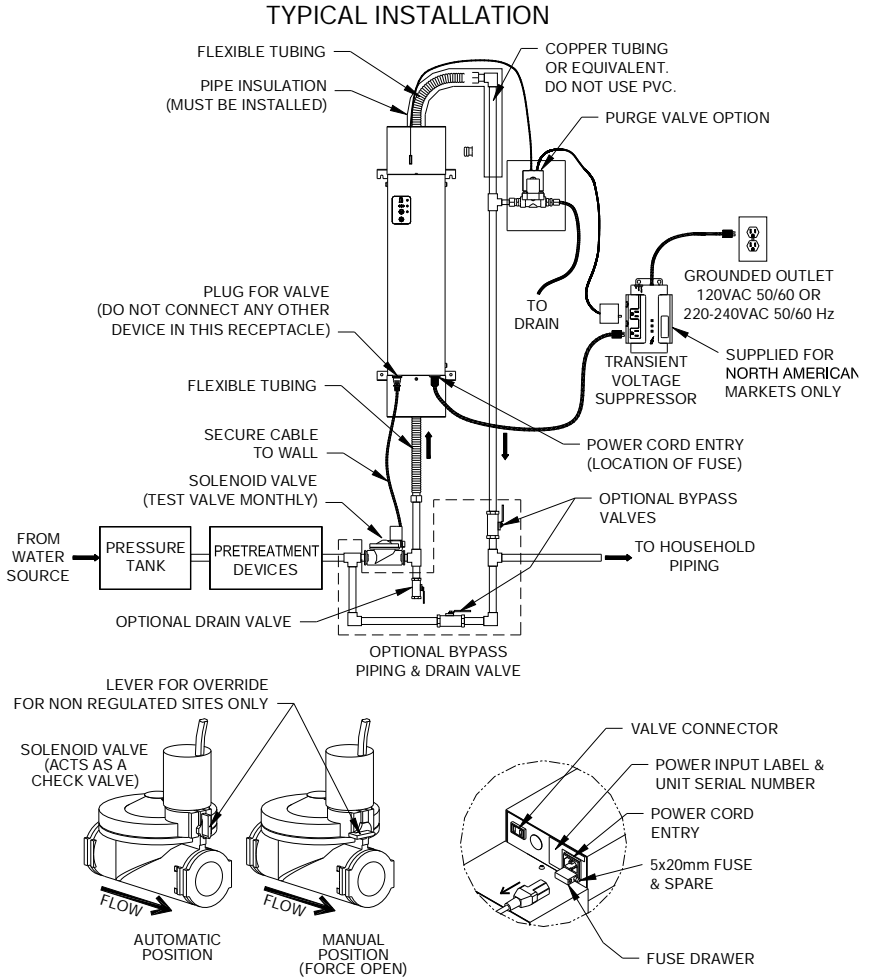

Figure 1B
There are two standard operating voltages for the Hallett unit. The unit may be 120Vac or 220-240 Vac. Please refer to the power input label located near the power cord entry of the unit. See Figure 1B. For convenience the front cover of the manual should also contain model number and operating voltage.
The Hallett requires male NPT fittings for the hose connections and also the solenoid valve (make a note of the size ¾", 1", 1.5"). These fittings and any piping compatible with the plumbing should be on hand before you begin installation. See Figure 1B and make a list of all necessary components including solder, paste and thread sealant. Bypass piping and valves that isolate the unit are optional, as is a drain valve for draining the unit.
Step 2: If you have decided to install an optional bypass line and drain, you may begin to install these fittings at this point. See Figure 1B for more information on how to connect optional bypass piping and drain.
Step 2: Plug the female end of the power cord into the power entry module located on the underside of the front panel. Note that the power entry module contains the only fuse for the unit, which can be accessed by pulling out the sliding fuse drawer. The power cord must be removed before changing the fuse. See Figure 1B